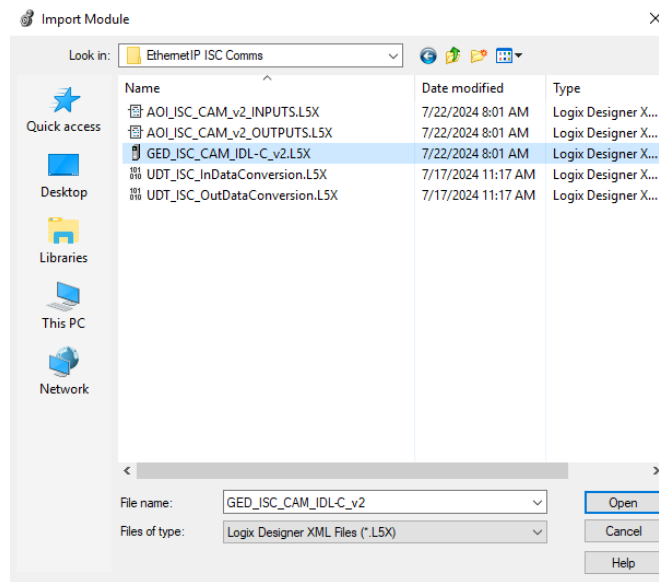

Figure 28: Import Module File Explorer GED_ISC_CAM_IDL-C_v2.L5X
11. A file explorer window “Import Module” will open. Navigate to GED_ISC_CAM_v2.L5K and “Open” the file, Figure 28.